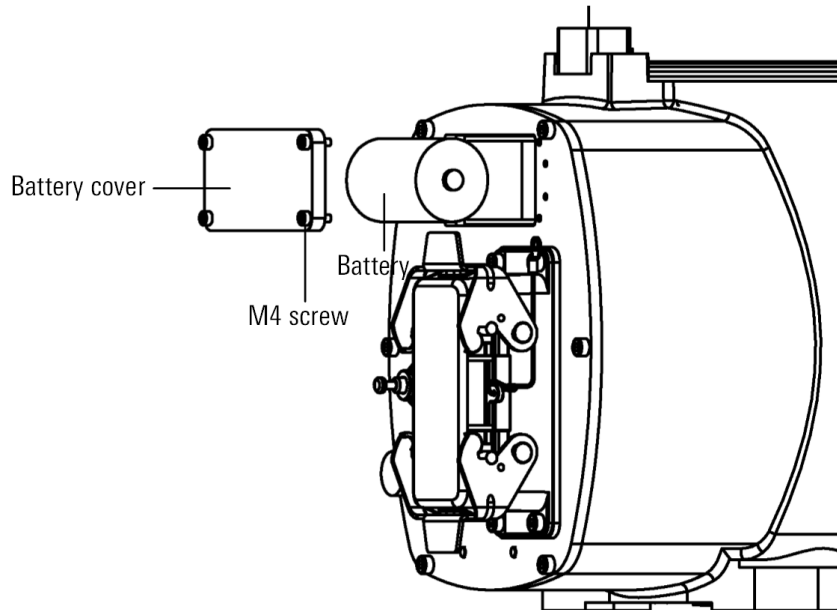

Figure 13-4 Schematic Diagram of Battery Replacement
- Remove the battery cover on the electrical mounting plate of manipulator, as shown in Figure 13-4.